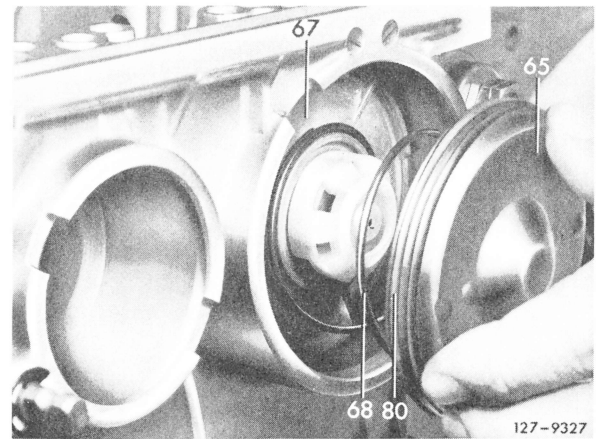

Fig. 62
Provide brake band piston cover B 2 (65) with a new O-ring (80) and insert together with truncated cone spring (68). Then secure with circlip (Fig. 62).